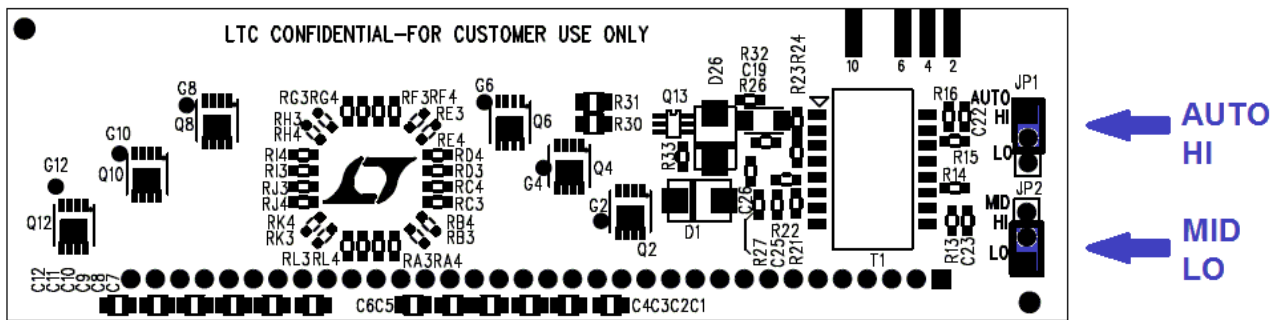

Figure 1. DC1682A Backside. Setting AUTO and MID Jumpers
Demonstration kit DC1840A includes the DC1682A daughter card and DC1680A mother board. The kit is set up for evaluating the LTC4270/LTC4271. Follow the procedure below and refer to Figures 1 through 4 for proper equipment setup.
1. On the DC1682A set AUTO jumper JP1 to HI (Figure 1) to enable AUTO pin mode.
2. On the DC1682A set MID jumper JP2 to LO (Figure 1) to disable midspan mode.